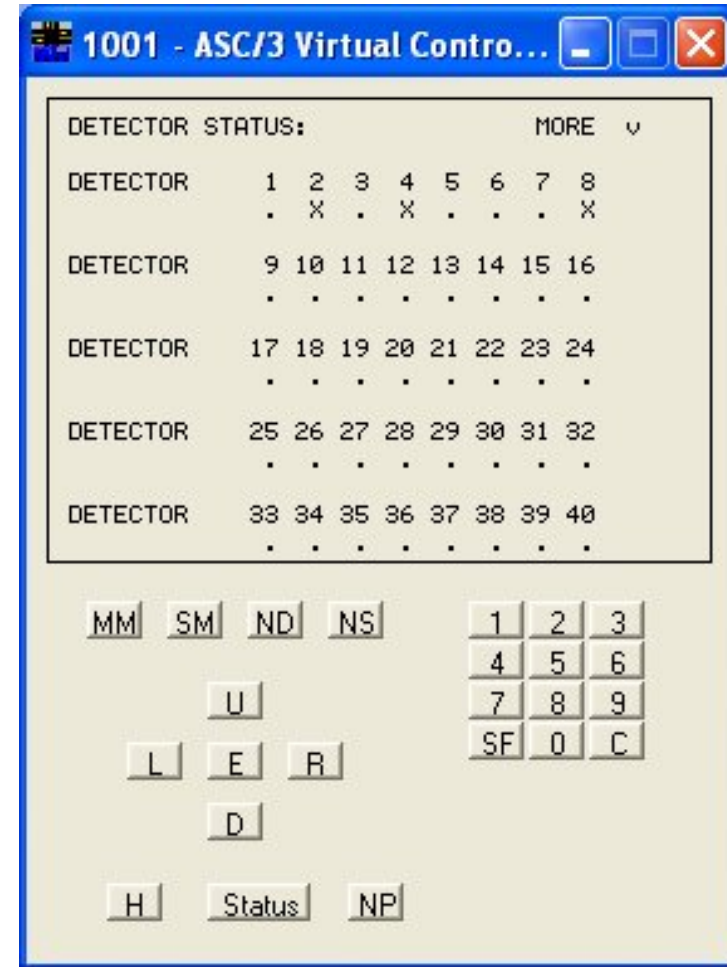

Figure 14 Detector Status
- The information shown in the controller panel is the current status for all of the detectors. In the example shown in Figure 14, there are active calls on detectors 2, 4, and 8, since an "X" is shown under these detector numbers.